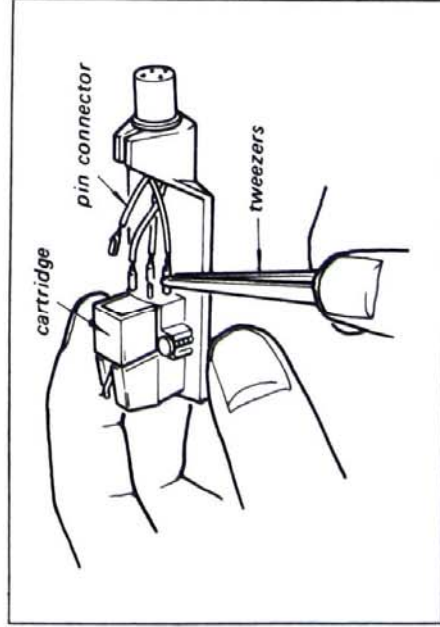

Fig. 2-8. Lead wire removal
2. Unplug the four-pin connectors at the cartridge as shown in Fig. 2-8.